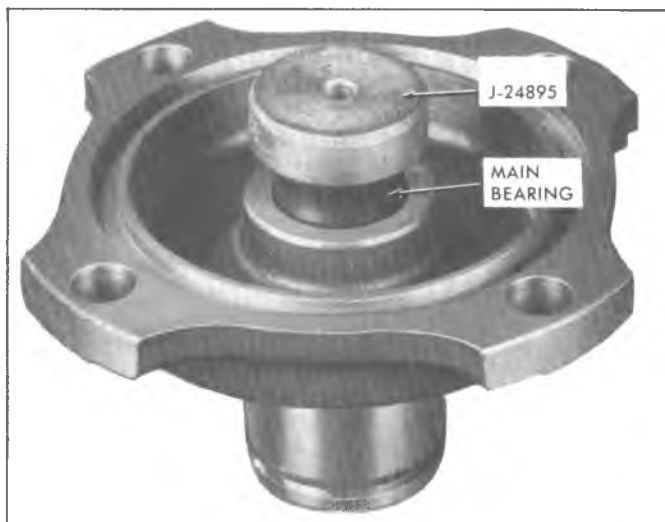

Fig. 22—Installing Main Bearing
2. Align new bearing and bearing installer J-24895 squarely with bearing bore of front head and drive bearing into front head (Fig. 22). The tool J-24895 must seat against front head to insert bearing to proper clearance depth.